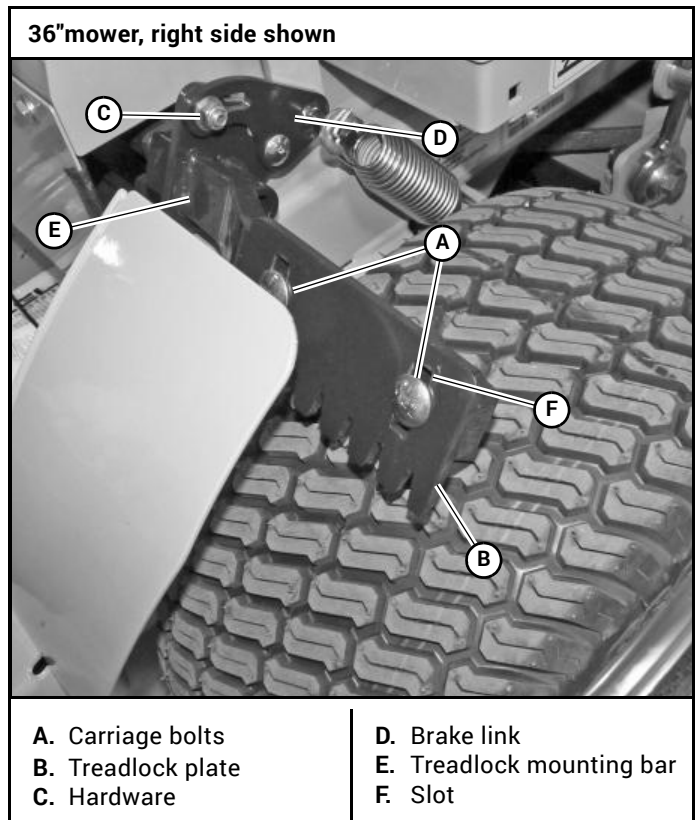

Figure 4-15
Treadlock plate (right side) – Loosen both the carriage bolts and adjust the treadlock plate until the carriage bolts are in the middle of the slots. Tighten the carriage bolts. Figure 4-15
3. Loosen the hardware that attaches the brake link to the treadlock mounting bar. Adjust the brake link so that the gap between the tire and the right treadlock plate is .75". Tighten the hardware. Figure 4-15